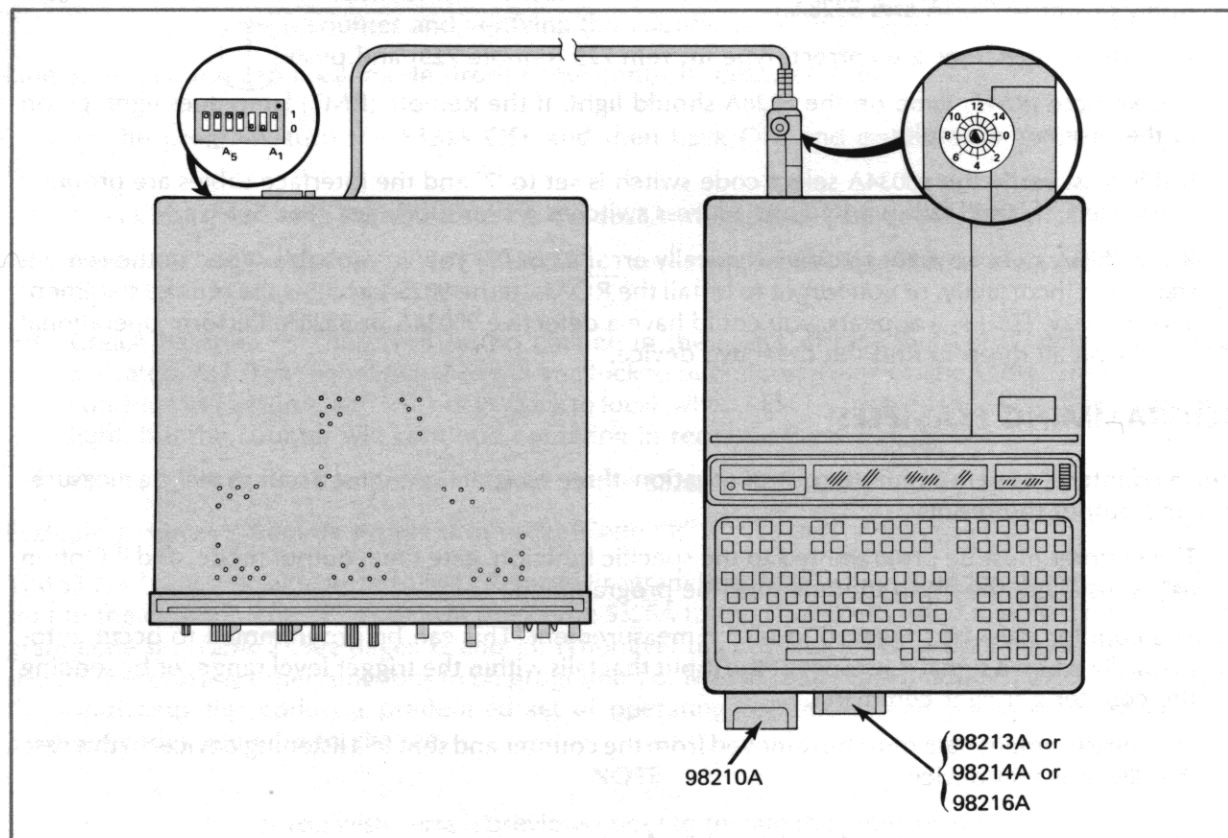
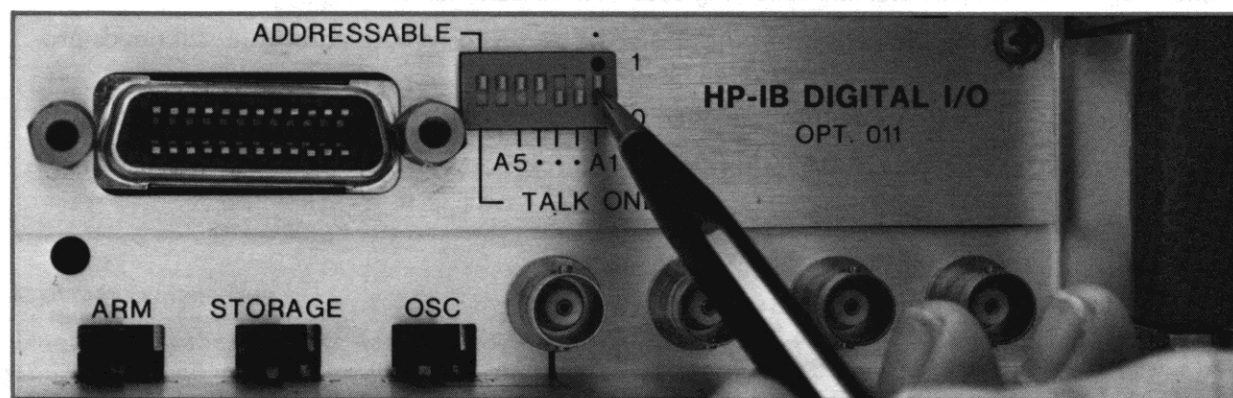

Figure 1. System Connection
Figure 2. Setting Address Switches
Figure 1 shows the complete system connection and switch settings for the 5328A and 98034A Interface Card. Figure 2 shows the 5328A rear panel with address switches and connector.
5. Facing the rear panel of the counter, note the seven small slide switches to the right of the HP-IB connector (see Figure 2). These are the ADDRESS switches. The five rightmost switches determine the counter's listen/talk address. The far-left switch is the Addressable/Talk Only switch. Since the counter will be required to accept programming information from the calculator the switch will be set to the Addressable position (up). The unmarked switch is not used. Set the address of the counter to '25' by setting the address switch positions as shown in Table 1 and Figure 2.